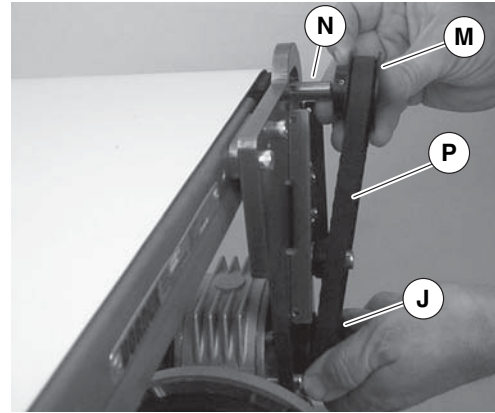

Figure 14
6. Install key (Figure 14, item N).